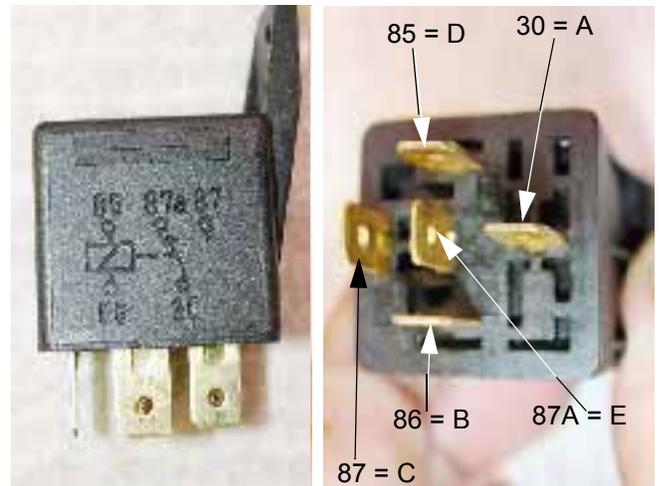

Figure 10.13
10.11. Relay #1: See Figure 10.13.
10.12. Relay #2: See Figure 10.13.
10.13. Relay #3: See Figure 10.13.